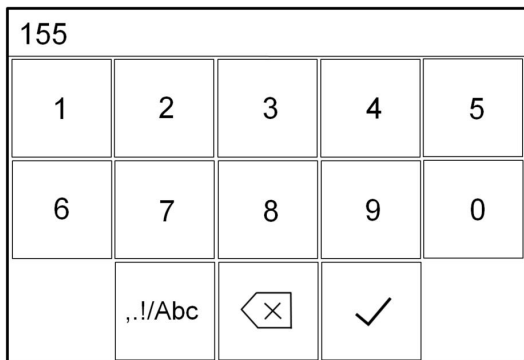

Figure 43
2) Click “155” in turn as Figure 43 shows, and then click “✓” to save , the interface will display as Figure 44, the original “20” will be changed to “155”, then press the “✓” key in the upper right corner of the display to save.